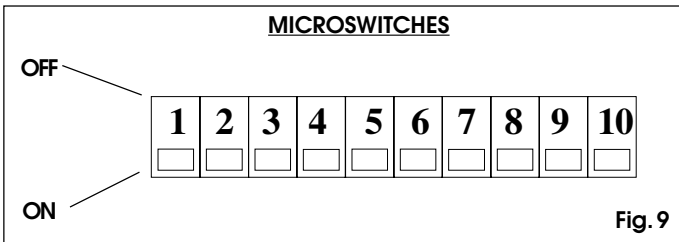

Fig. 9
5.4. PROGRAMMING THE MICROSWITCHES (fig.9)